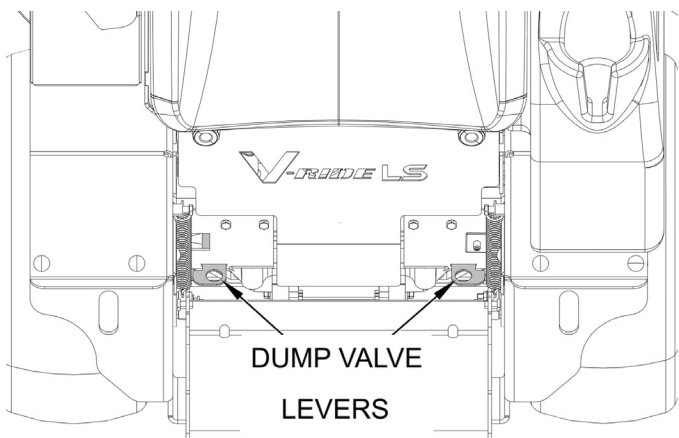

Figure 7-5. Dump Valve Control Lever
15. Place the dump valve control levers in the FREE WHEEL position. See Figure 7-5.
18. Engage the parking brake. Place the dump valve levers in the DRIVE position. See Figure 7-5.